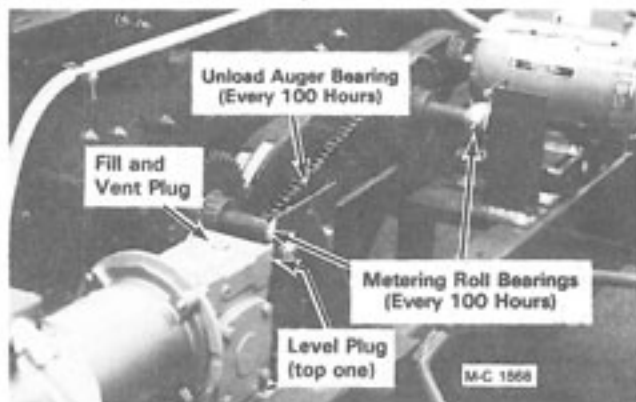

Figure 28
1. Lubricate the unloading auger front bearing and the front bearing on each grain metering roll, see Figure 28.
1. Remove the oil level plug (top one) on the end of the SCR drive gear box, see Figure 28. The oil level should be even with the bottom of the hole. If not, remove the vent plug on top of the gear box and add Mobil SHC 634 oil or equivalent until it just runs out. Install the level and vent plug.